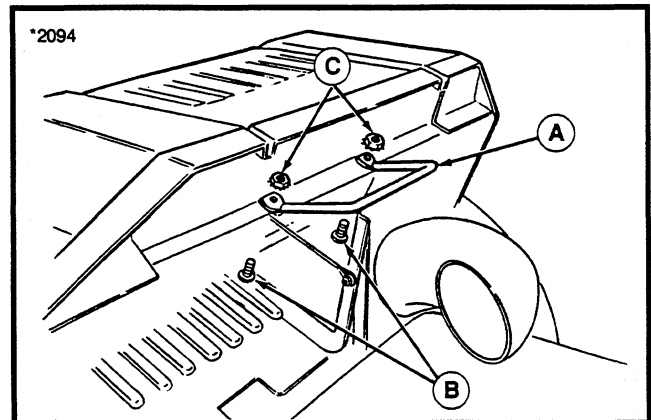

Figure 6.
7. Install handle (A, figure 6) to rear surface of lid with offset toward the rear. Secure with two 10-32x 1/2 truss screws (B) and 10-32 nut/washer assemblies (C).